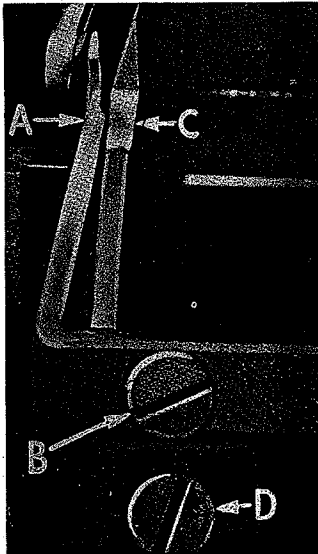

Fig. 6
Set rear needle guard (A, Fig. 6) as high as possible, without interfering with either lower looper or movement of lower knife holder, but still in position to deflect needles forward .002-.004 inch. Screw (B) is used to set rear needle guard. Make sure there is no interference between rear needle guard and lower looper.
Assemble front needle guard (C, Fig. 6). When lower looper is springing needles off rear needle guard, set front needle guard as close as possible to needles without touching. Screw (D) is used to adjust and set front needle guard. After this setting, make sure there is no interference between needle guards and differential feed dog.